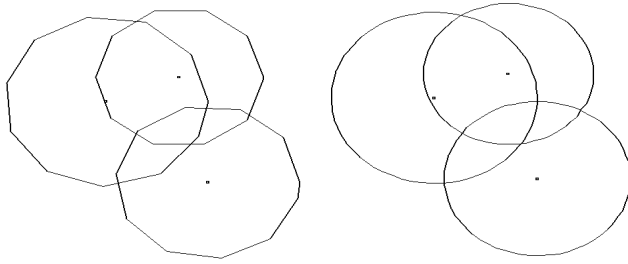

Figure 7.28: Arc factor settings (0.5 and 3 respectively)
10. Look at the Arc Factor option; it changes how arcs and curves are displayed. The higher the setting, the smoother curves appear. Use a lower setting while drawing to increase refresh speeds; then increase the setting when drawing is complete (see Figure 7.28).